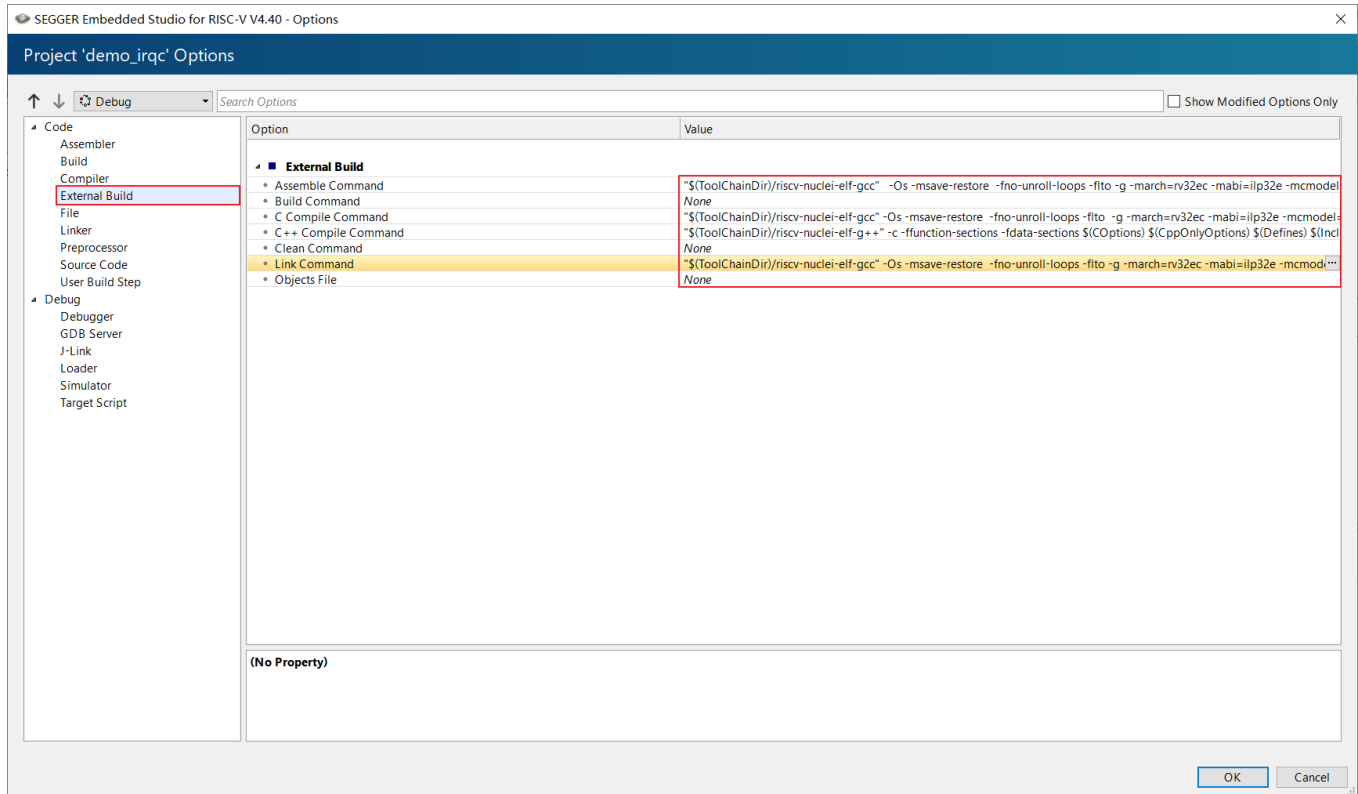

Figure 2-16 Change Compilation Link Instructions
- Modify the compilation options, as shown in Figure 2-16. Fill in the compile and link options of the project under the "External Build" column according to the actual needs of the project.